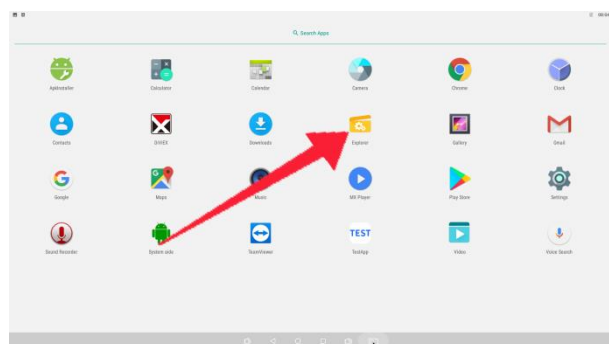

Fig. 2
2. Click the “Explorer” icon in the “APPS” menu interface (Fig. 2) and enter “Explorer” menu (Fig. 3);